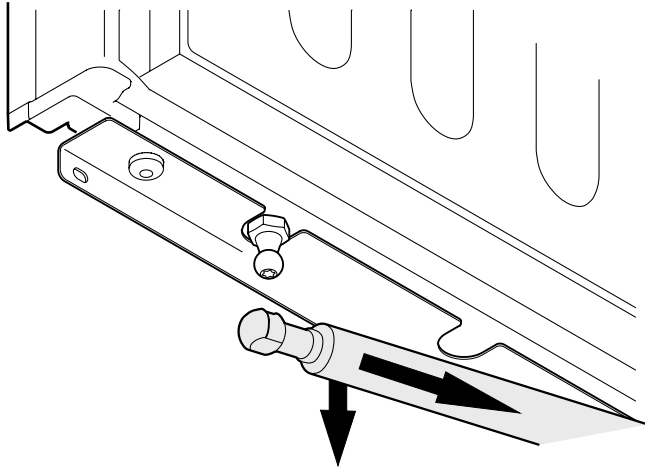

Figure 25
9. Grasp the soft-stop cylinder and pull down **Figure 25**.